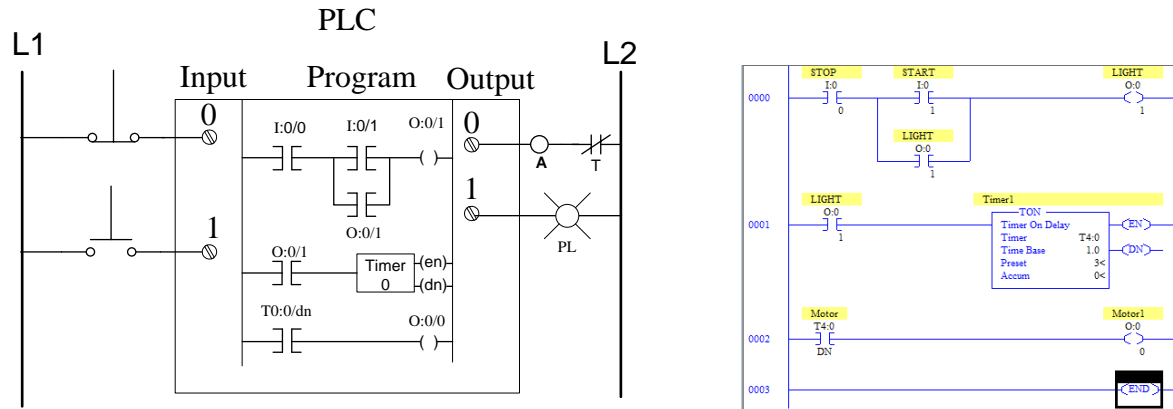

Figure 5: Modified PLC program to add a delay. Figure on right shows the actual ladder logic program
In this exercise we will assume that people around the motor must be warned with red light before the motor turns on (as in airport luggage conveyor belt). A red light should turn on 3 seconds before the motor starts. Change the ladder logic to as shown in figure 5.
12. Your diagram should look similar to the one shown in figure 5.